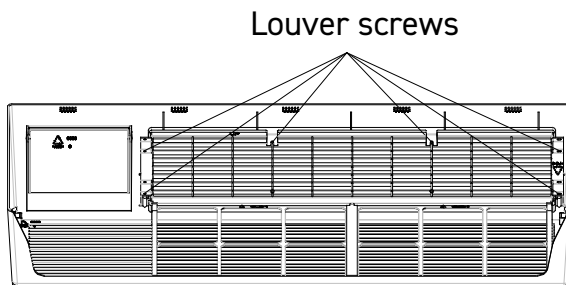

Figure J.2.2 (Backside of Front Panel)
2. Remove louver screws that hold louver insert in place (from back side of front panel). See Fig. J.2.2